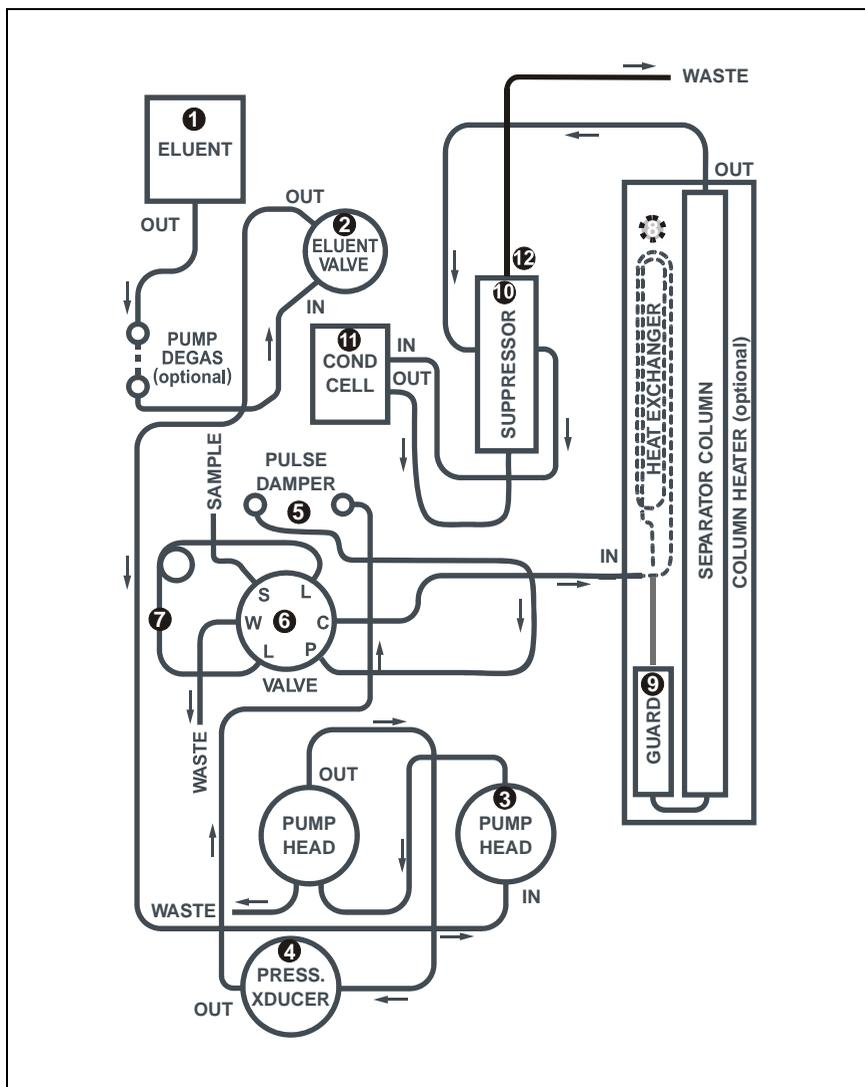

Figure 2-7. Dionex ICS-1100 Flow Schematic: Standard Configuration
- Figure 2-7 illustrates the liquid flow path through components when performing conventional ion chromatography.